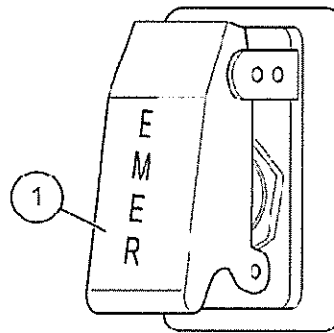

Fig 10 Emergency off switch
45 Refer to Fig 10. The emergency off switches (1) are located on the instrument panel and on the driver's side of the vehicle.